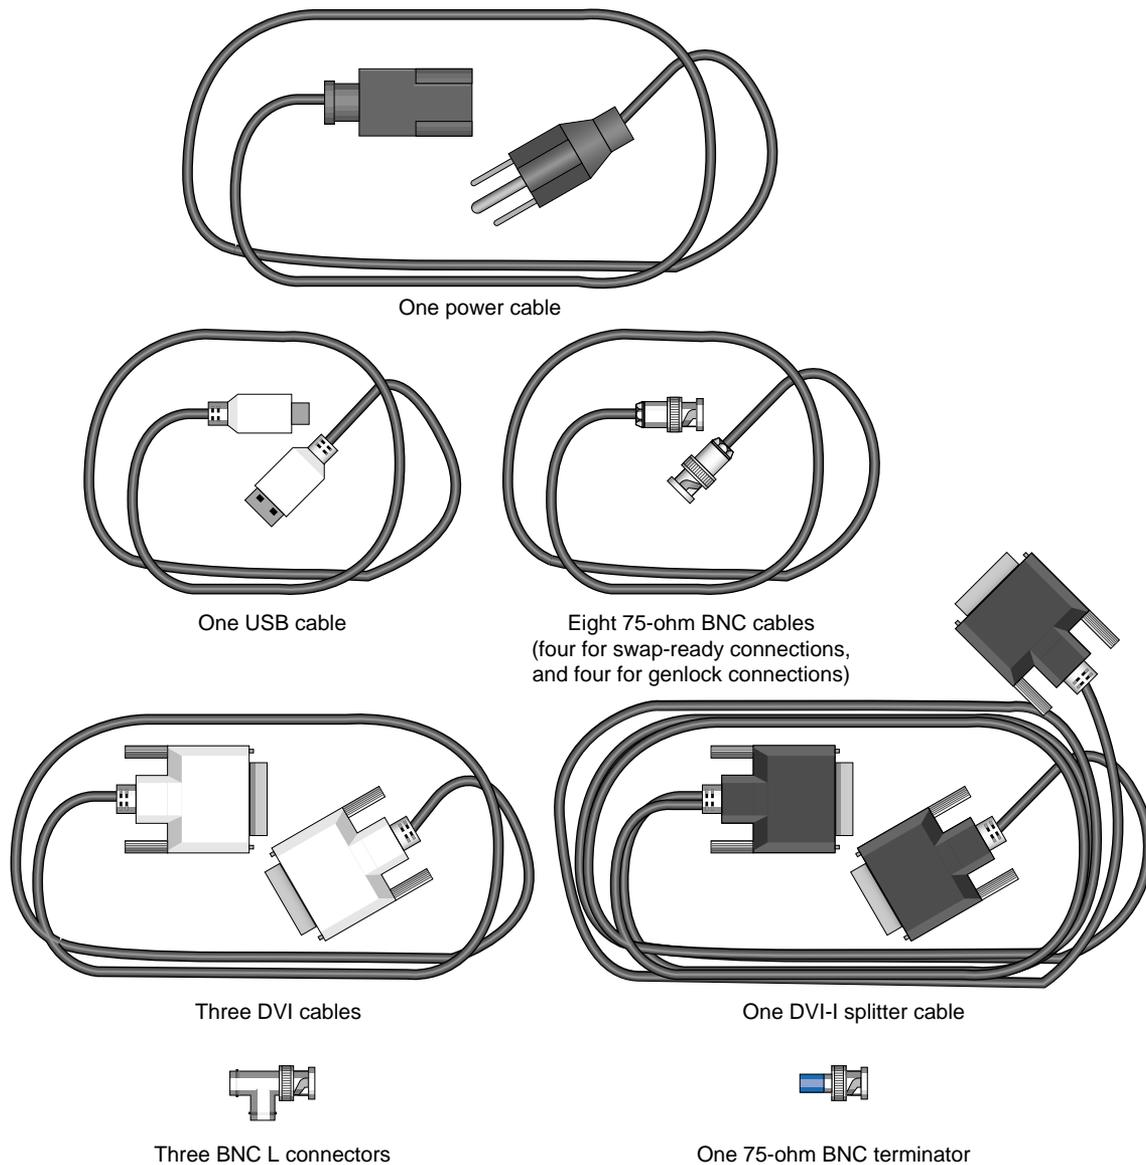

Figure 2-3 Cables and Other Cabling Items Needed for Installation
1. Be sure that the compositor power switch on the rear panel is in the OFF (O) position and that it is not connected to a power source.
2. Gather the following cables and other cabling items, most of which are shown in Figure 2-3: